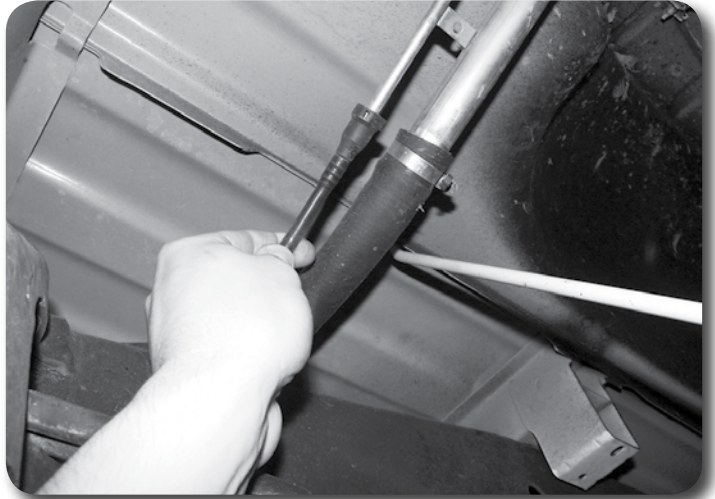

Figure 27
74. The plastic filler neck vent line will be extended after lifting Figure 27. Cut the line approximately 4" below the connector fitting.